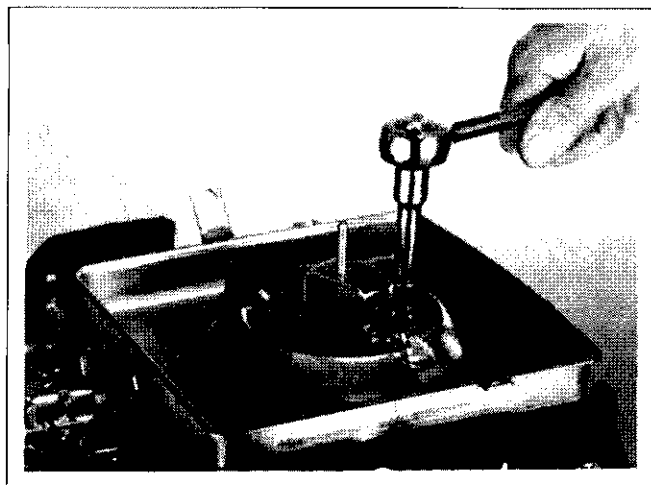

Figure 4-8. Bracket Retaining Screw.
2. Remove the hex. flange screws securing the bracket and base (Figure 4-8).